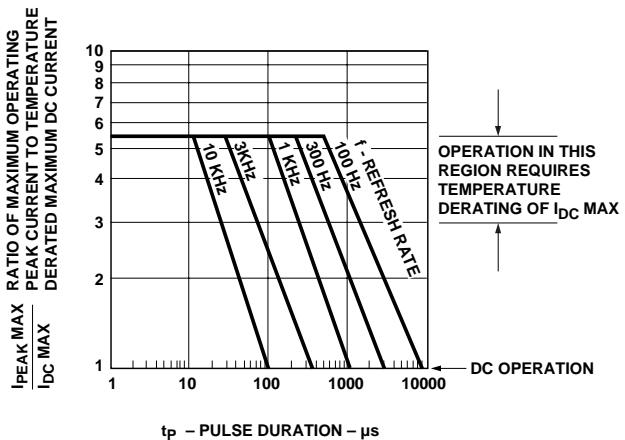

Figure 2. Maximum Tolerable Peak Current vs. Pulse Duration – AlGaAs Red.
2. See Figure 2 to establish pulsed operating conditions. Maximum pulse width is 1.5 ms.